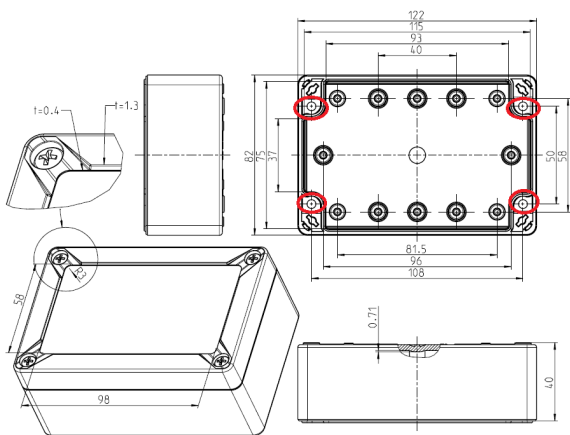

Figure 3: Housing measurements [mm]
The gateway is securely fastened to a wall or ceiling with the cover open using the four fastening points marked in red in Figure 3 and 4 mm anchor screws. For example, in a solid brick wall, 4 mm anchor screws with a length of 50 mm can be used with 38 mm long dowels with a diameter of 6 mm to ensure a good hold.
- ⚠ The gateway must be securely screwed to a wall/ceiling using four suitable M4 screws and wall anchor, cf. red marking in figure 3.
- ⚠ The mounted pressure compensation element (9) increases the total width of the gateway from 122 mm in figure 3 to a total of 130 mm.
- i The pressure compensation element (9) and the IP66 housing protection class allow the gateway to be operated outdoors.